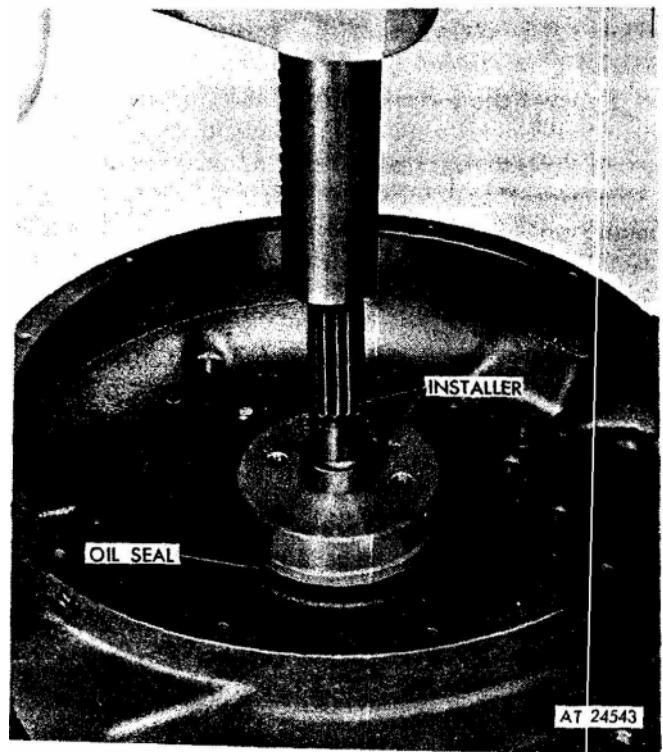

Figure 3. Installing oil seal in flywheel housing.
4. On I n-line engines use installer J 9479 to press the oil seal into the flywheel housing until the seal is flush with the outside face of the housing (fig. 3). If the flywheel housing was not removed from the